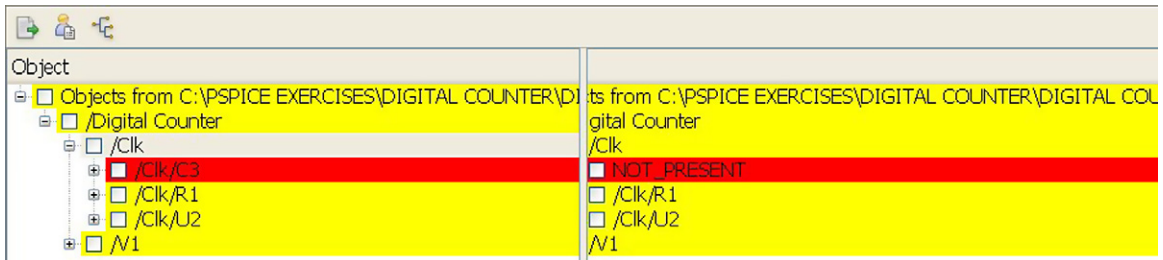

FIGURE 22.27
- To update the master design with the new value for R4, click on the **Accept Left** icon ; as there is no longer a difference between R4 in the test bench and the master design, R4 will not be displayed in the SVS window (Figure 22.27).